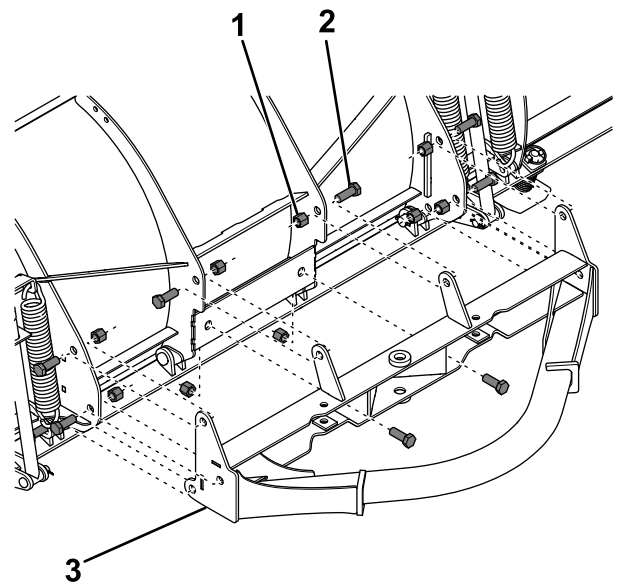

Figure 4
1. Secure the pushframe attachment bar to the plow using 10 bolts (3/4 inch) and locknuts (Figure 4).